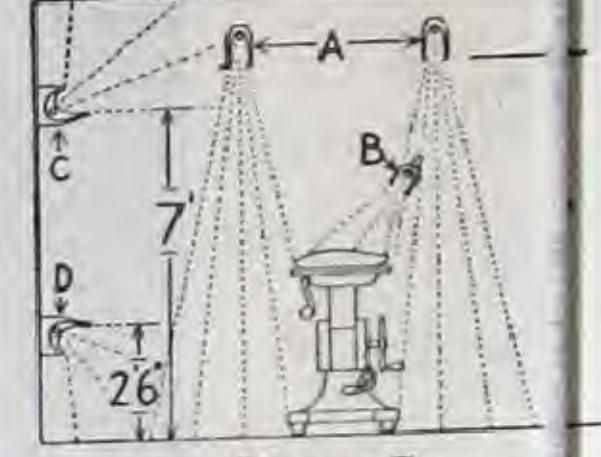

Figure 5
**Operating Rooms:** Recent tabulations prove almost entire elimination of severe post-operative infections by proper installation of Germicidal lamps in the operating room. The well-balanced installation for modern operating rooms is accomplished by overhead and floor-level reservoirs of sterile air (provided by fixtures "C" and "D" in Figure 5, above) combined with a downward barrier (fixtures "A" in Figure 5) and finally the direct-irradiator (fixture "B" in Figure 5) focused on the seat of the operation.
Fixtures "C" and "D" in Figure 5 are Bracket Types. Unit "D" is mounted in an inverted position. In an 18' x 20' operating room with a 12' ceiling, eight Bracket Type units are recommended; four of them (one on each wall) mounted as "C" in Figure 5, 7' 0" above floor-level. The other four are mounted as "D" in Figure 5 (one on each of the four walls) and to be 30" above the floor. These eight units will provide approximately 300 air-changes-per-hour (see "Air-Displacement Table" using "C" column figures). These units will provide continual irradiation on most of the vertical, on all of the horizontal room surfaces and on much of the circulating-air in the room.